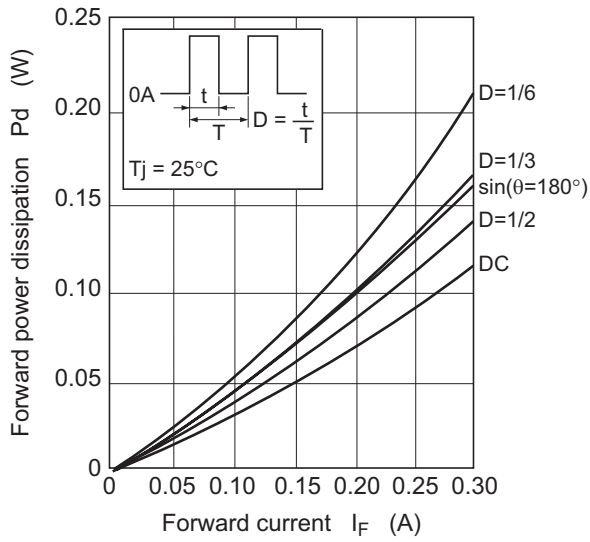

Fig.4 Forward power dissipation vs. Forward current
- Notes: 1. See from Fig.4 to Fig.6.